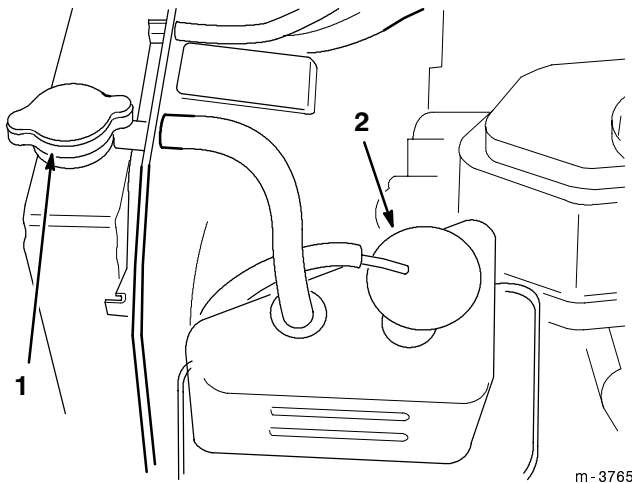

Figure 28
2. Remove the radiator cap and reserve tank cap (Fig. 28).